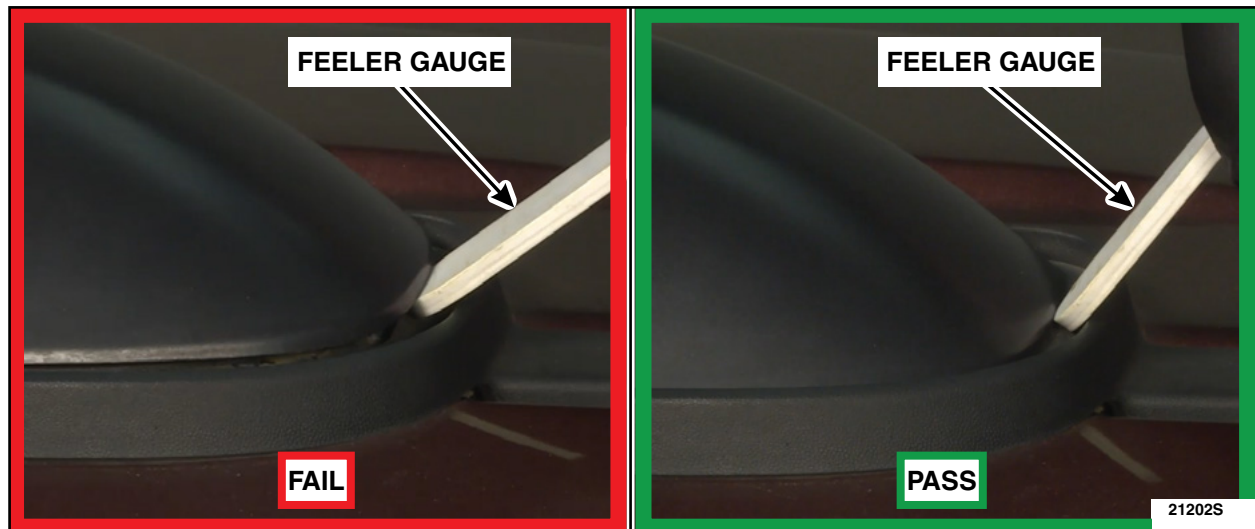

FIGURE 4
1. Using a 2 mm feeler gauge, check the spacing on the front and rear of both the RH and LH roof rail covers. See Figure 4. If the feeler gauge fits between the roof rail cover and the roof rail base then it fails inspection. Does the roof rail covers pass or fail?